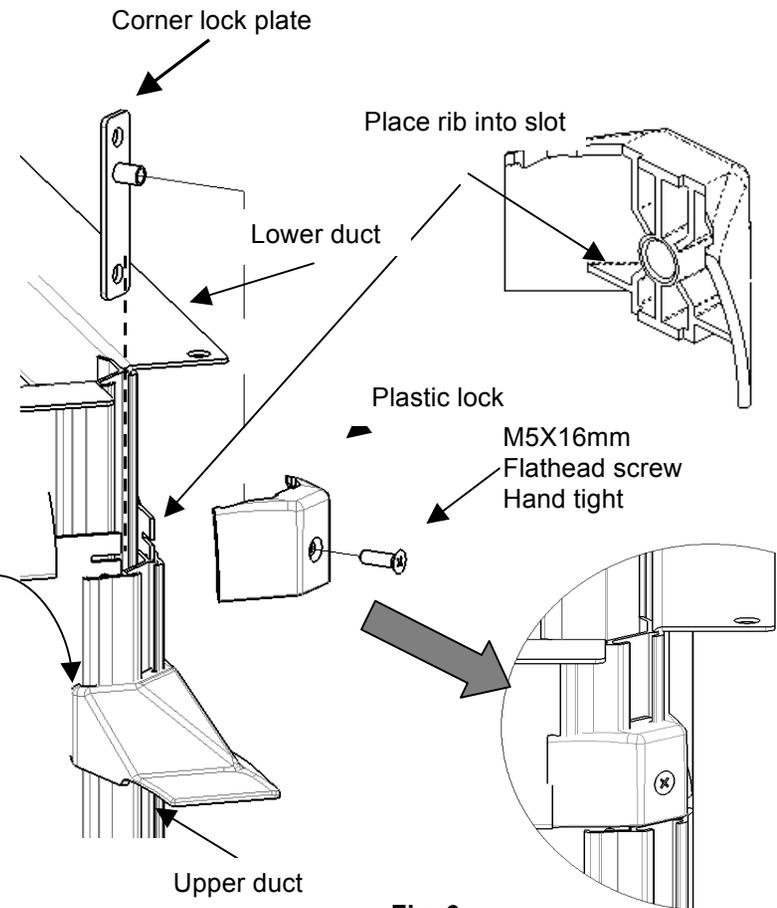

Fig. 6
8. Slide the Corner Lock Plate into the slot of the inner duct (Fig. 6).
9. Line up the ribs of the Plastic Lock with the slots in the outer duct (Fig. 6)
10. Fasten the Corner Lock Plate and Plastic Lock with the screw shown and tighten securely (Fig. 6)